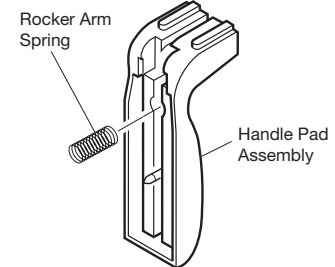

Figure 7 - Removing Rocker Arm Spring from Handle Pad
2. Pull rocker arm spring away from handle pad assembly to remove (see Figure 7).